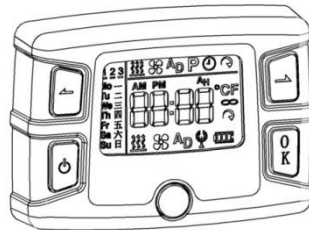

Fig.17
5.4 LCD switch (Optional device, see Fig.17)